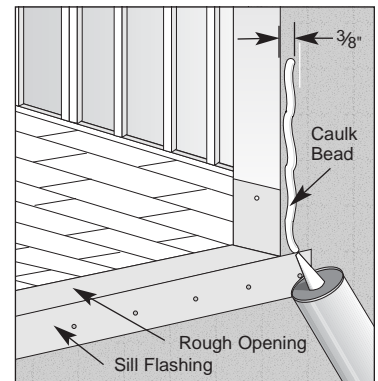

Figure 2
2. Apply a bead of high-performance caulk around the perimeter of the rough opening at the head and jambs (within 3/8" from the edge) where the window frame will seat against it (fig. 2).